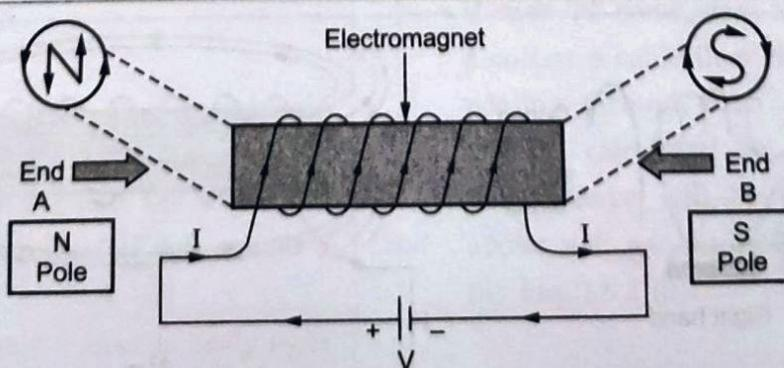

Fig. 1.8.8 End rule
- Consider an electromagnet shown in the Fig. 1.8.8.